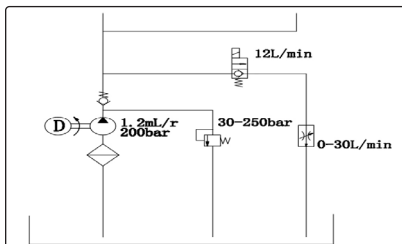

fig.2
7.6. ELECTRICAL-HYDRAULIC PUMP (fig.2)